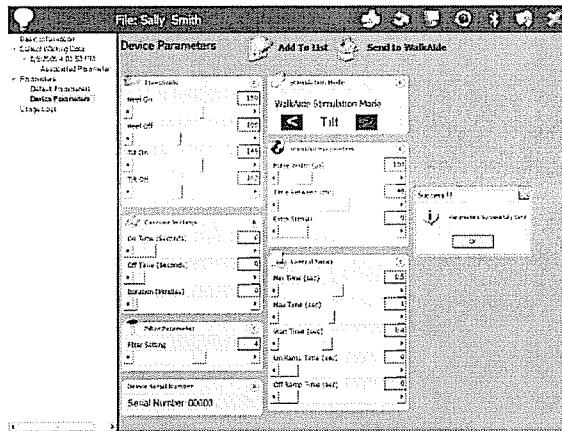

Figure 18 – Default parameters screen.
3. Click 'Default Parameters' from the list on the left (Figure 18). Check to see that the WalkAide Stimulation Mode is set to the appropriate setting (Hand) and then click on the 'Send to WalkAide' icon. Click 'OK' when the default parameters have been successfully sent. If the 'Heel' mode is selected, be sure to connect the heel or foot sensor to the unit or an alarm will be heard two times every two seconds.